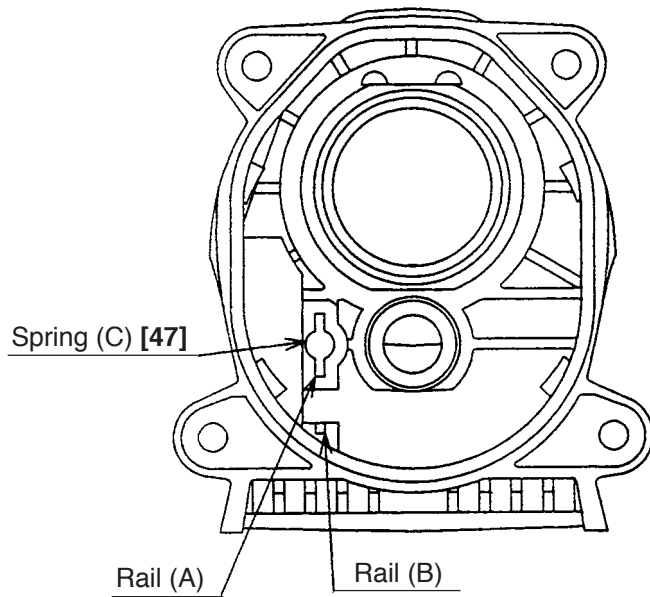

Fig. 22
Mount the lock plate ass'y to rails (A) and (B) of Gear Cover (A) [10] (Fig. 22). At this time, fit the Lock Plate [48] properly in rail (A) and rail (B) as shown in Fig. 23 (A). Push in Spring (C) [47] and mount Change Lever (A) [19]. When mounting Change Lever (A) [19], push in Change Lever (A) [19] strongly with the "△" mark pointed right below in the same manner as removal. Turn Change Lever (A) [19] within the range indicated with an arrow mark in Fig. 24 and then tighten the Tapping Screw D2.6 x 10 [22].